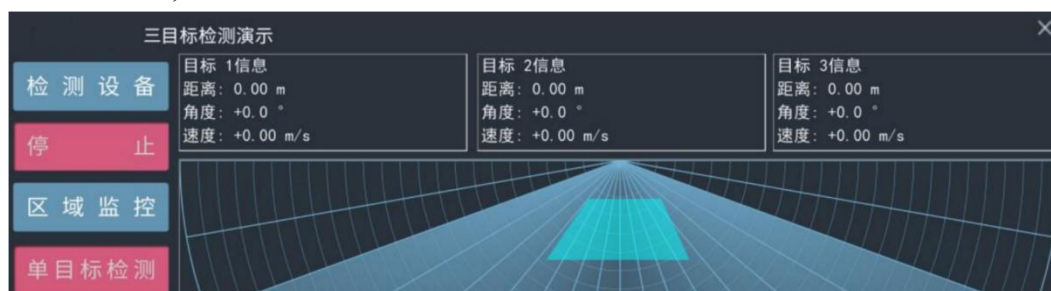
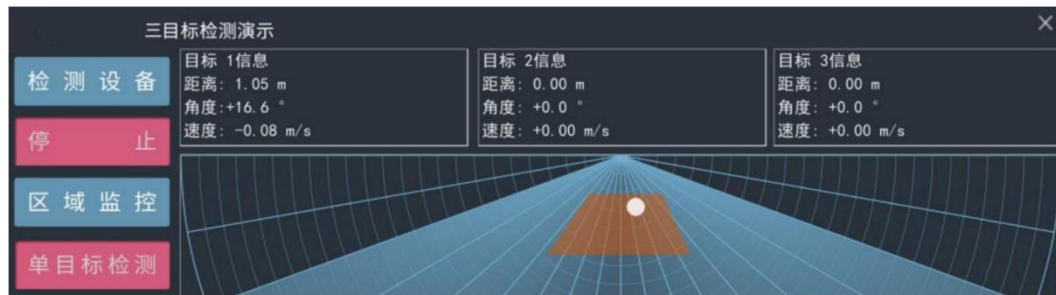

Figure 4-8 Set monitoring area
Figure 4-9 Target in the monitoring area
Step 3: Click the "Add Monitoring Area" button on the "Region Monitoring" setting page to start setting the monitoring area: left-click the mouse in the fan-shaped area on the interface to set each vertex of the monitoring area, and right-click the mouse to end the setting of the monitoring area. The host computer tool will connect each vertex into a polygon in the order of mouse clicks and display it on the interface. The area enclosed by the polygon is the monitoring area. Figure 4-8 shows a quadrilateral monitoring area. When someone enters the monitoring area, the background color of the monitoring area will change to "target color"; after the human body leaves the detection area, the area color will change back to "no target color", as shown in Figures 4-9 and 4-10 ;